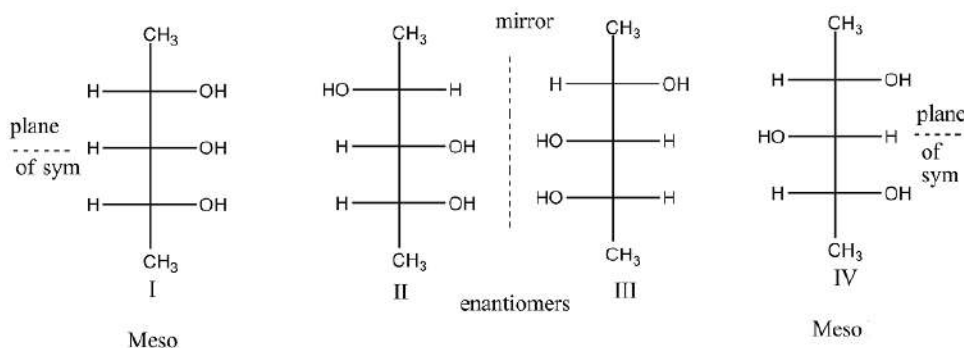

Figure 4.19: Optical isomerism in  $\text{CH}_3 - (\text{CHOH})_3 - \text{CH}_3$
*Ans:* There are only two asymmetric carbon atoms. The middle C-atom is not asymmetric.  $2^2 = 4$  optical isomers are possible, They are shown in fig.4.19. There are two meso forms (meso I and meso IV) and an enantiomeric pair II and III.